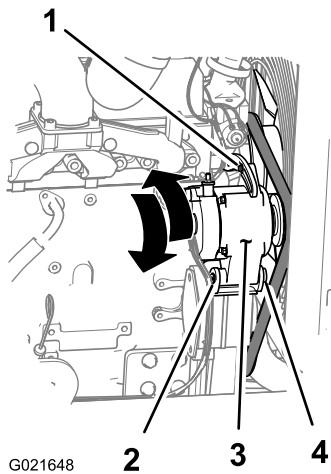

Figure 118
3. Loosen the nut and bolt at the pivot point for the alternator (Figure 118).
4. Loosen the adjustment bolt on the alternator (Figure 118).
5. Move the alternator away from the engine to increase the belt tension; move the alternator toward the engine to decrease the belt tension (Figure 118).
6. Tighten the alternator adjustment bolt (Figure 118).
8. If the belt tension is correct, tighten the nut and bolt at the pivot point for the alternator (Figure 118); otherwise, repeat steps 4 through 7.